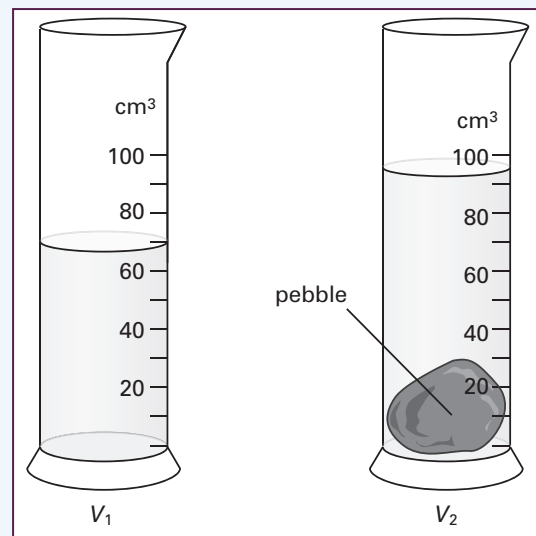

Figure 1.16 For Question 1.6.
- 1.6** An O-level student thinks it may be possible to identify different rocks (A, B and C) by measuring their densities. She uses an electronic balance to measure the mass of each sample and uses the 'displacement method' to determine the volume of each sample. Figure 1.16 shows her displacement results for sample A.